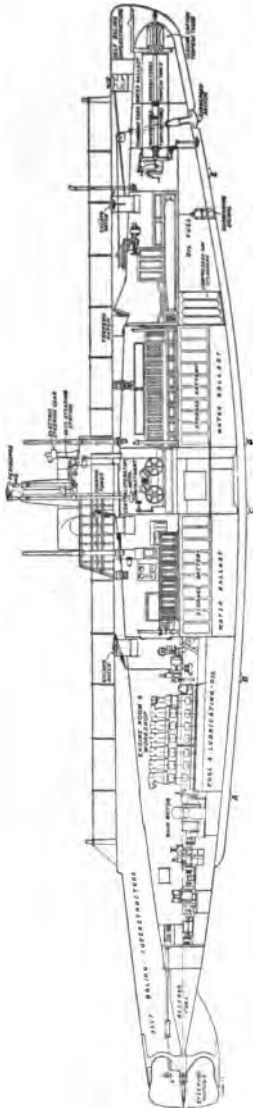

FIG. 62. — Diagram of a submarine.
69. The Submarine. The principle of the submarine is essentially the same as that of the Cartesian diver. When the submarine is to be submerged, certain compartments are opened to fill them with water. By this method the vessel is nearly submerged. It is then forced under water by the combined action of the propellers and horizontal diving rudders. It is brought to the surface again by the proper handling of the horizontal rudders. Compressed air is used to force the water out of the flooded compartments, Fig. 62.